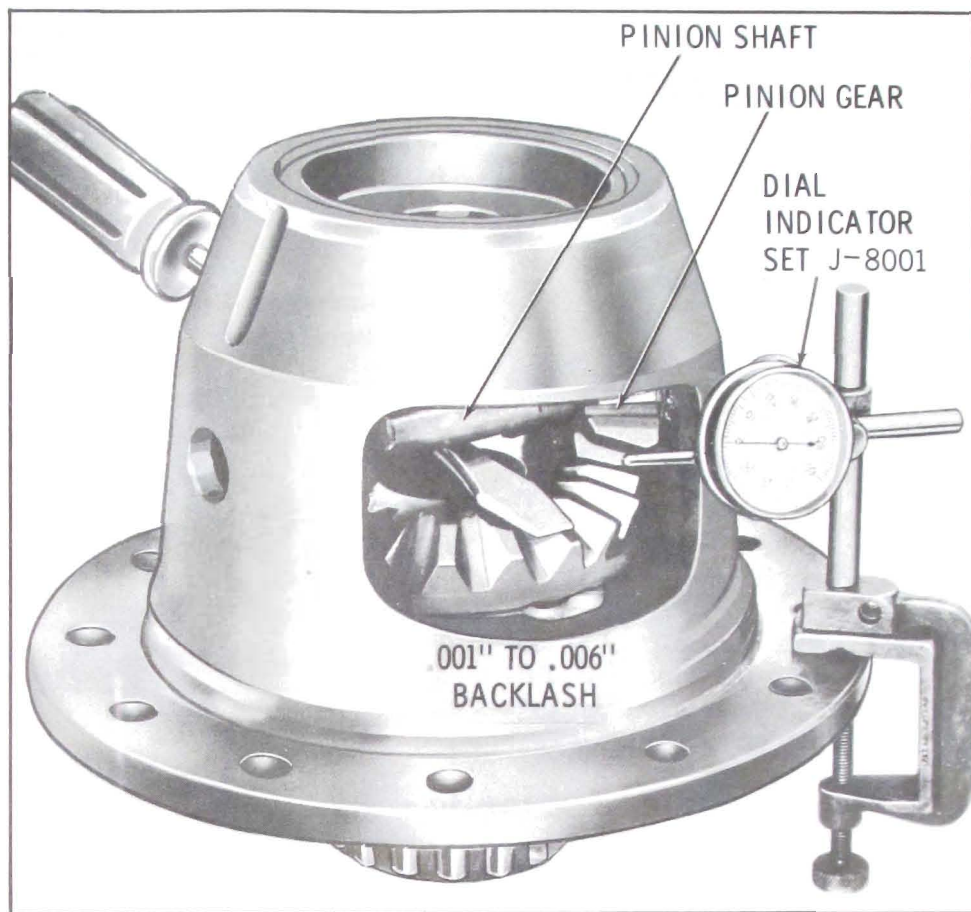

Figure 6-85—Checking Side Gear to Pinion Backlash
d. Install dial indicator with the contact button against the pinion gear. See Figure 6-85.